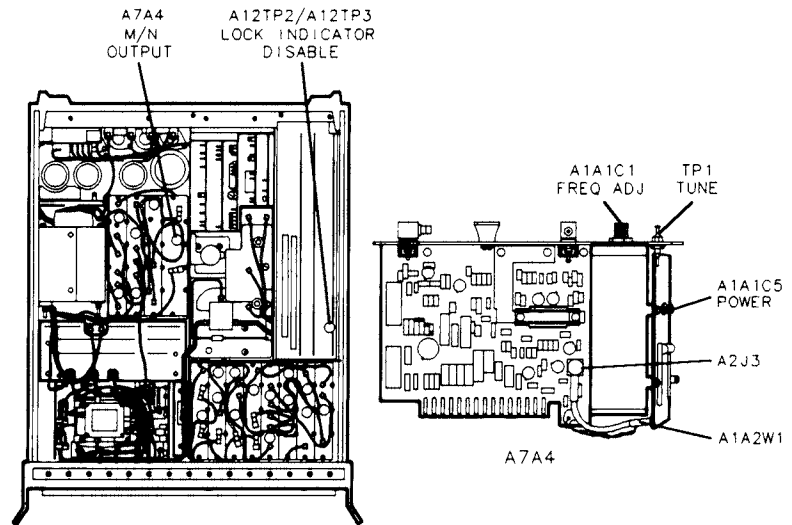

Figure 3-68. Location of PLL Adjustments
3. Connect a jumper between A12TP2 and A12TP3 (LOCK INDICATOR DISABLE) in the RF Section. Refer to Figure 3-68 for the location of A12TP2 and A12TP3.
4. Disconnect the cable 93 (white/orange) from A7A4J2 M/N OUT in the RF Section. Refer to Figure 3-68 for the location of the A7A4 M/N Output Assembly.
16. Disconnect the cable 9 (white) A7A4A1A2W1 from A7A4A2J3 on the A7A4 M/N Output Assembly. Refer to Figure 3-68 for the location of A7A4A1A2W1 and A7A4A2J3. Use an SMB male-to-male adapter and a BNC to SMB Snap-on Test Cable to connect the white cable to the input of the second spectrum analyzer.
19. Adjust A7A4A1A1C5 PWR for an M/N VCO output level of 0.0 dBm ± 2.0 dB as indicated on the second spectrum analyzer display. Refer to Figure 3-68 for the location of A7A4A1A1C5 PWR adjustment.